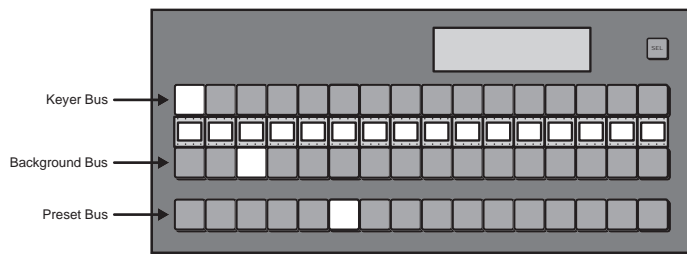

Figure 5.19 Video Sources Selected — Before Transition
2. Select the video source that you want to transition to on the **Preset** bus of the same MLE (**Figure 5.19**).